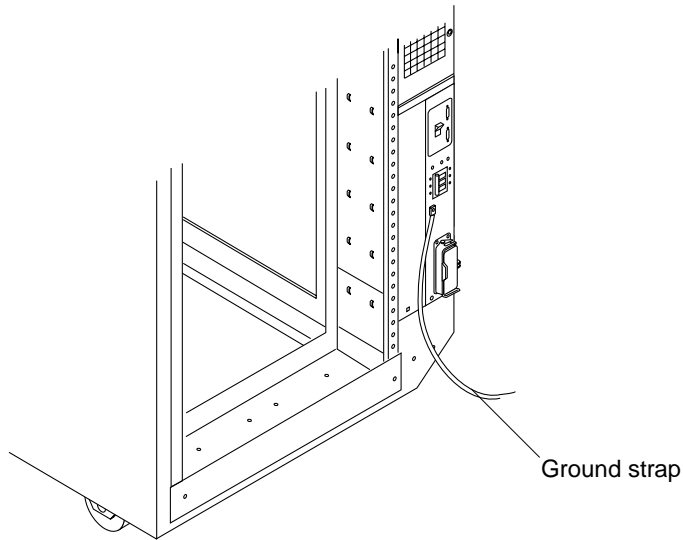

FIGURE 2-5 Connecting the Ground Strap to the System Cabinet Power Sequencer
2. Screw one end of the ground strap to the power sequencer on the system cabinet or cabinet nearest to the expansion cabinet (FIGURE 2-5).